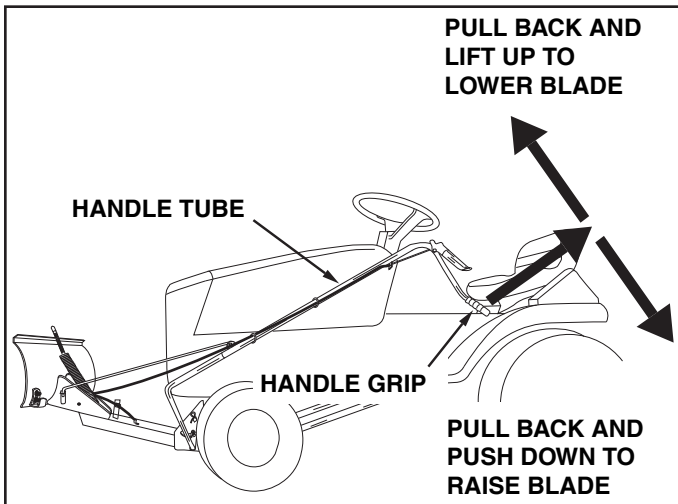

FIGURE 21
1. To raise the blade, use the handle grip located on the end of the handle tube. Pull back while pushing down on the handle grip. To lower blade, pull back while lifting up on handle grip. See figure 21.